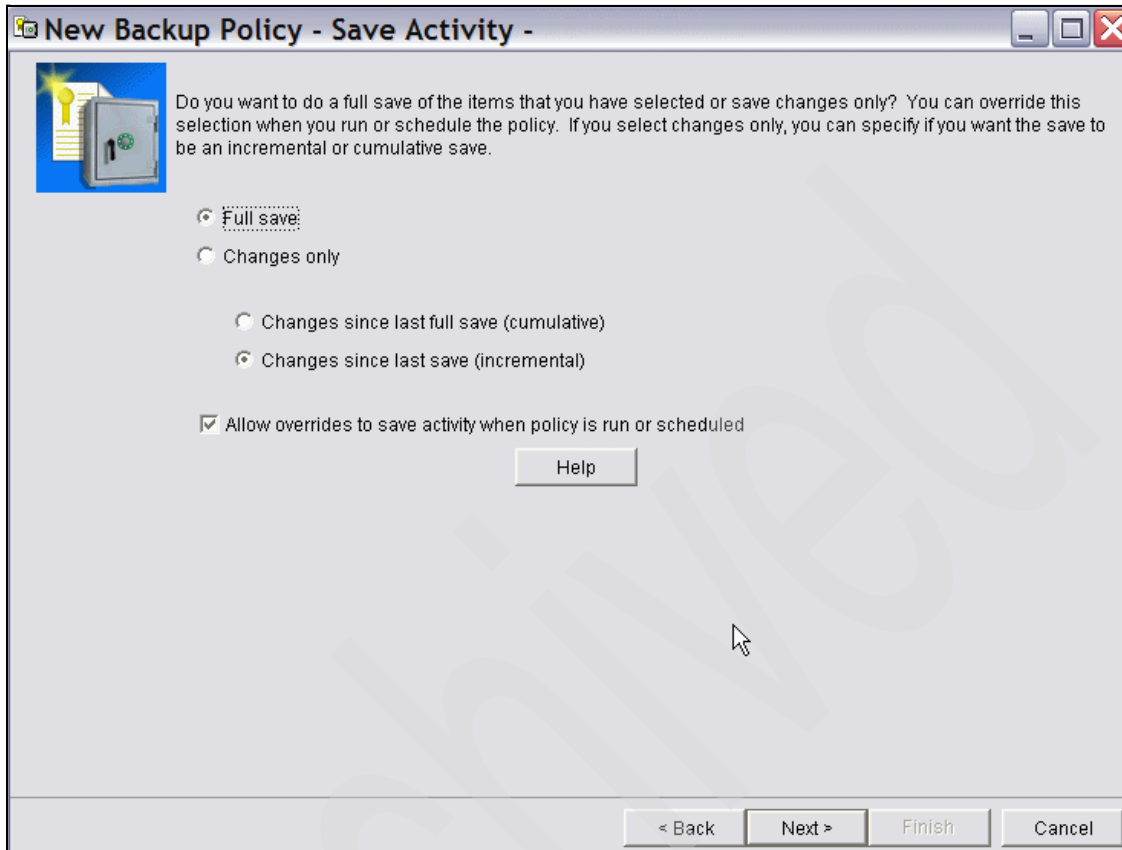

Figure 5-23 BRMS backup policy, save activity
10. The Save Activity window is shown in Figure 5-23 on page 211. Since DOMINO02 is a minor server, everything is backed up to make recovery easier. To do this, select **Full save**. Against Changes only, select **Changes since last save (incremental)**. Select **Allow overrides...** and then click **Next**.